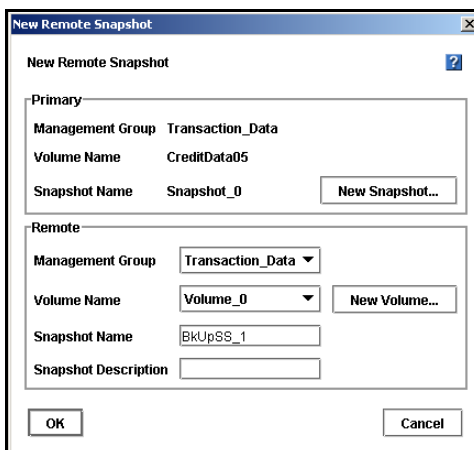

Figure 236. Completing the New Remote Snapshot Dialog
2. [Optional] Type a description for the snapshot. The completed window is shown in Figure 236.